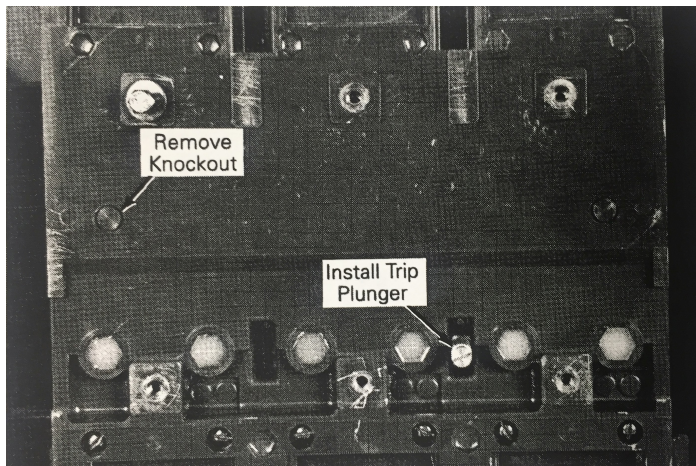

Figure 3. Trip plunger Installed in the rear of the breaker.
1. Install the threaded trip plunger into the square hole on the rear of the breaker, as shown in Figure 3. Tighten to 8 in-lb.
2. Remove the knockout on the rear of the breaker, as shown in Figure 3. Be sure to clean the edges of the hole, so that the interlock plunger can move freely in and out.